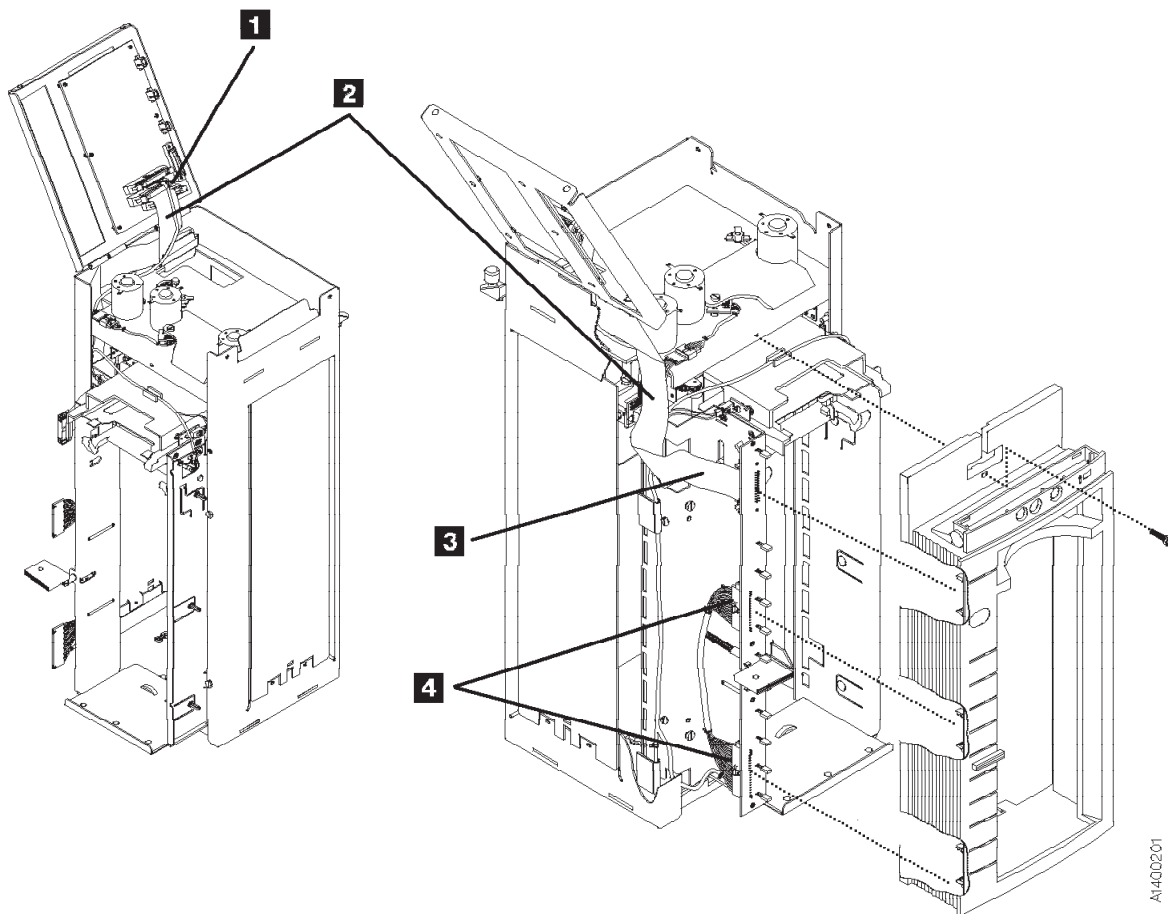

Figure 10-30. LED Cable
4. See Figure 10-30. Disconnect the LED ribbon cable connector from connector P2 **1** on the motor control card.